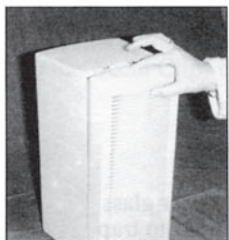

fig. 2
3. Press and release the filter cover (fig. 2).
2. Press and release the filter cover (fig. 2).